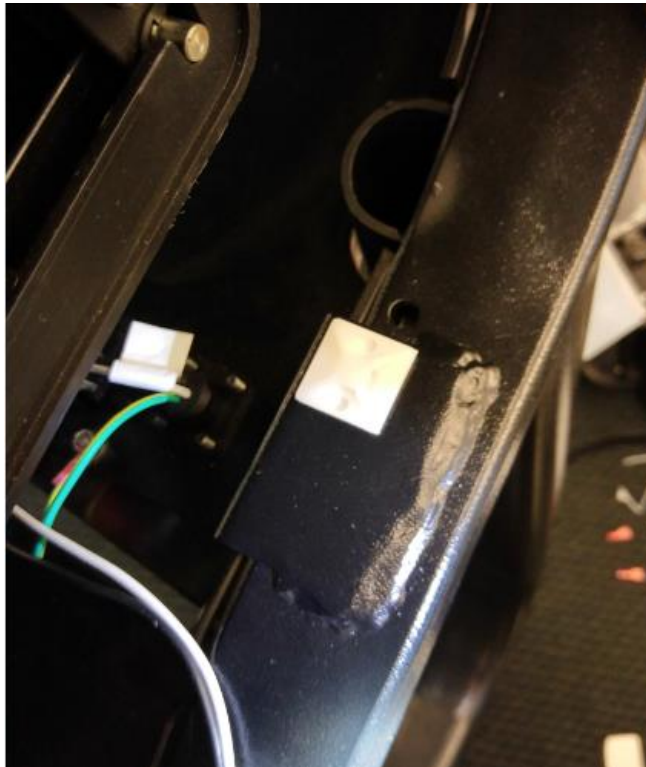

Fig. 5
6. Remove the cover from the double stick tape on the wire mount and apply the wire mount to the frame where shown below in Fig. 5.